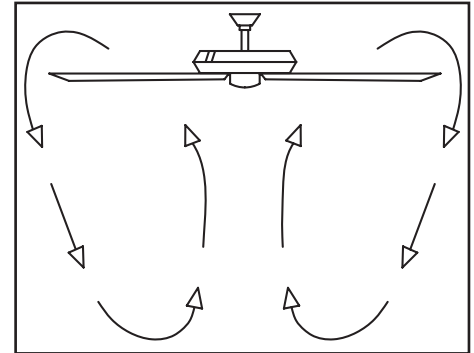

Figure 16
**Cool weather - (Reverse)** An upward air flow moves warm air off the ceiling as shown in Figure 16. This allows you to set your heating unit on a lower setting without affecting your comfort.